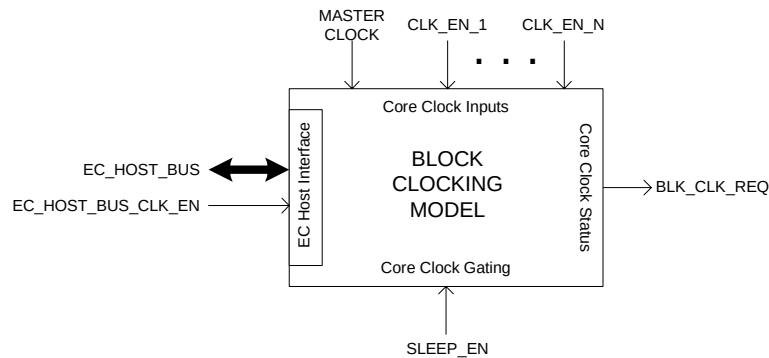

Figure 4.2 Generic Block Clocking Model Illustration
The Generic Block Clocking Model defines the block Clock Gating interface that is assumed by the Clock Generator for all of the MEC5035 internal blocks identified in the Block Sleep Enable Registers. Components of this model are illustrated in Figure 4.2 and described in Section 4.4.5.2. The response of this model to the actions of the Power Management Interface is described in Section 4.4.5.3, "Behavior," on page 81.
As shown in Figure 4.2 the external interface for the Generic Block Clocking Model includes an EC (or other available bus master) host interface, core clock Inputs (which may be clocks or clock enables), a logical core clock gating control and a core clock status output. Not shown in Figure 4.2 is the internal interface for the Generic Block Clocking Model that includes a block enable bit and may also include a block idle status indicator. Each of the Generic Block Clocking Model internal and external interface elements and operational states are described in Table 4.5.
When firmware de-asserts the internal block enable bit the block is disabled and in a minimum power consumption state. Depending on the implementation, the host may need to guarantee that the block is not in use before the internal enable bit is de-asserted because it may also function as a reset. Transitions to a minimum block power consumption state while the internal enable bit remains asserted may be requested by the Power Management Interface using an external sleep enable input (see also Section 4.4.5.3, "Behavior," on page 81). In both cases (i.e., when the block is disabled or sleeping), the core clock required status indicator output (BLK\_CLK\_REQ in Figure 4.2) is de-asserted.
**Note 4.6** the "Block Clock Required Status Output" (BLK\_CLK\_REQ in Figure 4.2) only reflects the core clock requirement; i.e. independent of the host interface clock enable (EC\_HOST\_BUS\_CLK\_EN in Figure 4.2). The MEC5035 Generic Block Clocking Model assumes that the block may not remain operational without the host interface clock enable which will not be stopped unless the 64.52 MHz Ring Oscillator is disabled (see Section 4.4.7, "Power Management Interface," on page 84). The "Clock Required Status" for each block can be seen in the Clock Required Status Registers.
**Note 4.7** the internal enable bit (not shown in Figure 4.2) is accessible through the EC Host Interface shown in Figure 4.2 and provides a reset to each block. Typically, as soon as the internal enable bit is de-asserted, the block may be immediately reset and held in the lowest power consumption state.